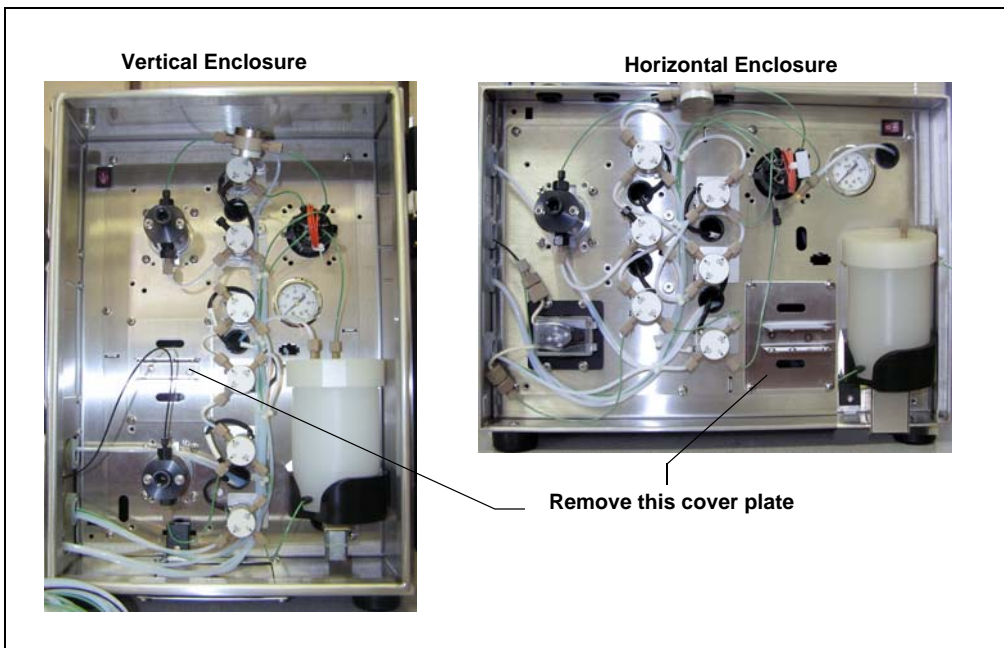

Figure G-4. SP Panel: Remove Cover Plate
1. On the SP panel, remove the cover plate shown in Figure G-4.